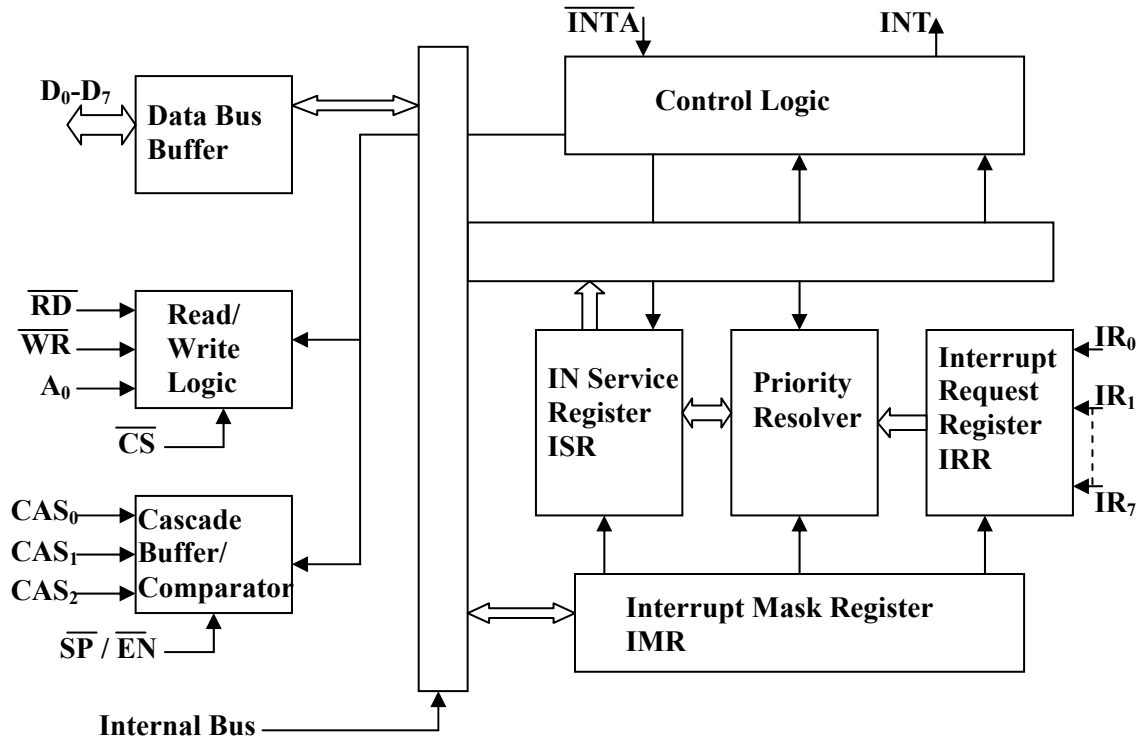

Fig:1 8259A Block Diagram
- The architectural block diagram of 8259A is shown in fig1. The functional explication of each block is given in the following text in brief.
- **Interrupt Request Register (RR):** The interrupts at IRQ input lines are handled by Interrupt Request internally. IRR stores all the interrupt request in it in order to serve them one by one on the priority basis.